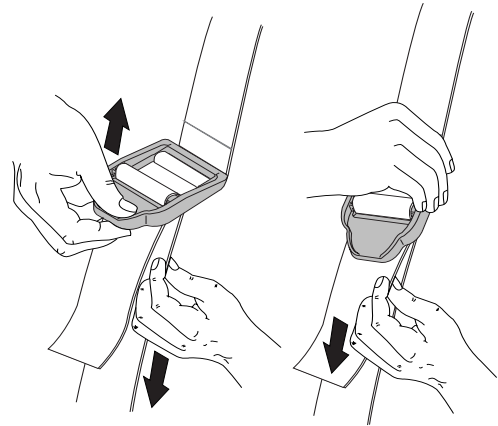

Fig. 9
4. While standing in the operating position, adjust the length to fit the operator's size. Pull the tab to lengthen, pull the strap to shorten (Fig 9).